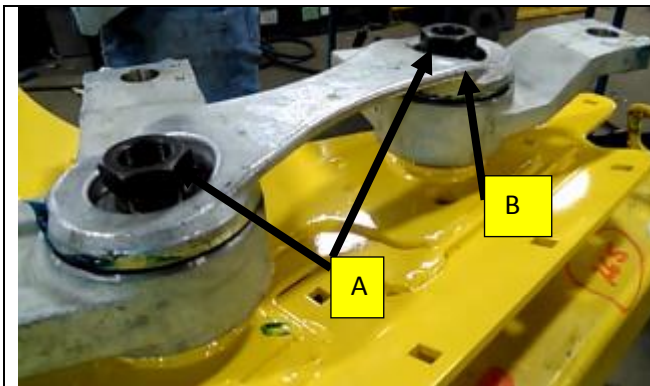

Figure 3
- The new bearing will replace the bell crank bearings with a tapered roller bearing. The torque is also reduced on the new shorter nut. Tightening the nut to **550 Ft. Lbs. (A)** Figure 3